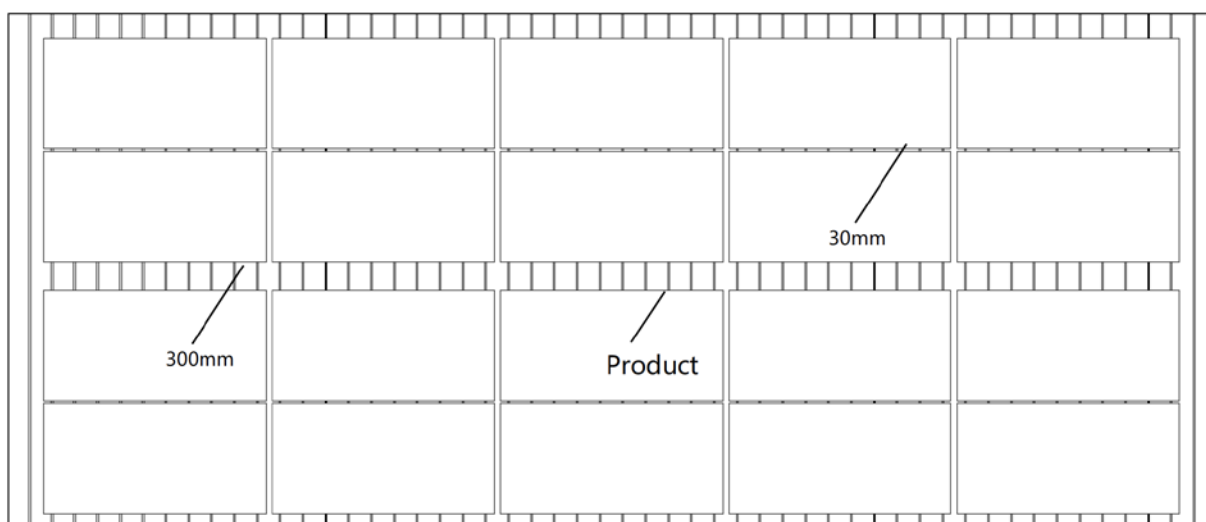

Figure 14
- ⑥ A distance of 30mm ( $\pm 5$ mm) should be left between two adjacent products and a maintenance access path of 300mm should be provided between two rows of products. (Figure 14)